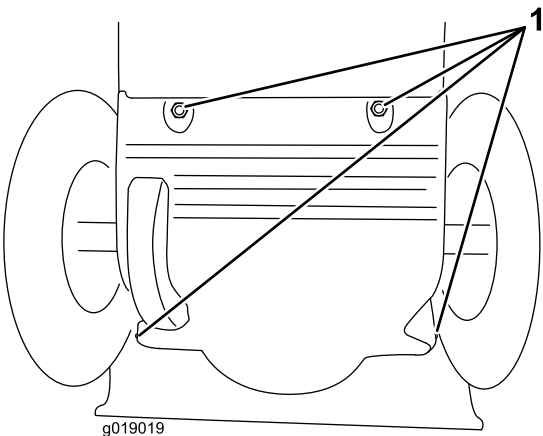

Figure 45
3. Remove the back cover (Figure 45).